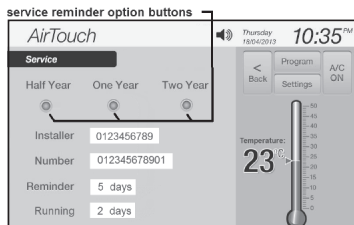
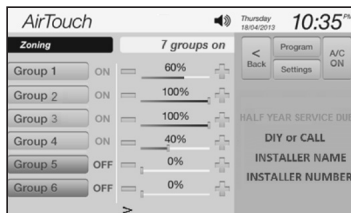

Figure 23.
Figure 26.
The service reminder will display 'HALF YEAR SERVICE DUE', 'ONE YEAR SERVICE DUE' or 'TWO YEAR SERVICE DUE' and installer's name and contact number on touch screen for the set number of days if it has been enabled for half year (182 days), one year (365), two years (728 days) respectively since the air conditioning system had been commissioned or serviced as shown in figure 26. The days in the 'Service' screen will automatically reset to 1 after 728 days or can be manually changed. The Service Reminder is disabled by default but can be enabled as follows:
- In the 'Installer Settings' screen (Figure 6), touch **Service** to enter the 'Service' screen (Figure 23).
Reminder information will be displayed on the right side of the touch screen when the service is due (Figure 26) for the length of the reminder days (5 days in the example of figure 23). Touch the information area will clear the alert before the set reminder days has reached.